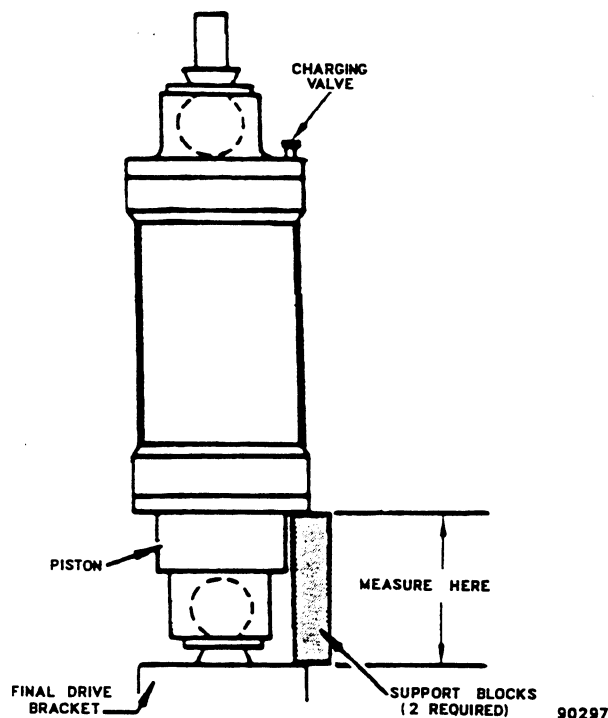

FIGURE 4-4. REAR SUSPENSION
1. With nitrogen charging support blocks at hand raise rear of truck with crane or jacks to provide clearance for these support blocks (Figure 4-4).